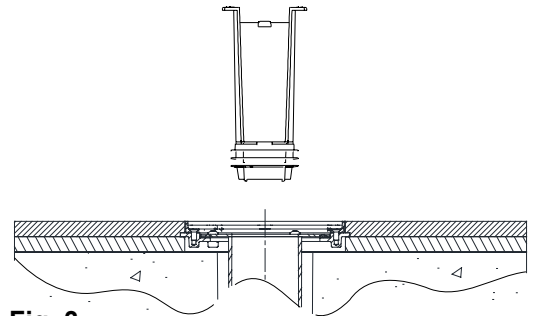

Fig. 3
3. Align ZPTSP above the center of the drain assembly. See Fig. 3.